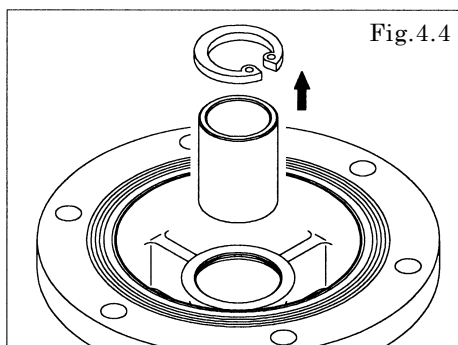

Fig.4.4
- Remove the C type snap ring, and remove the throat bearing from the air chamber. [Fig. 4.4]